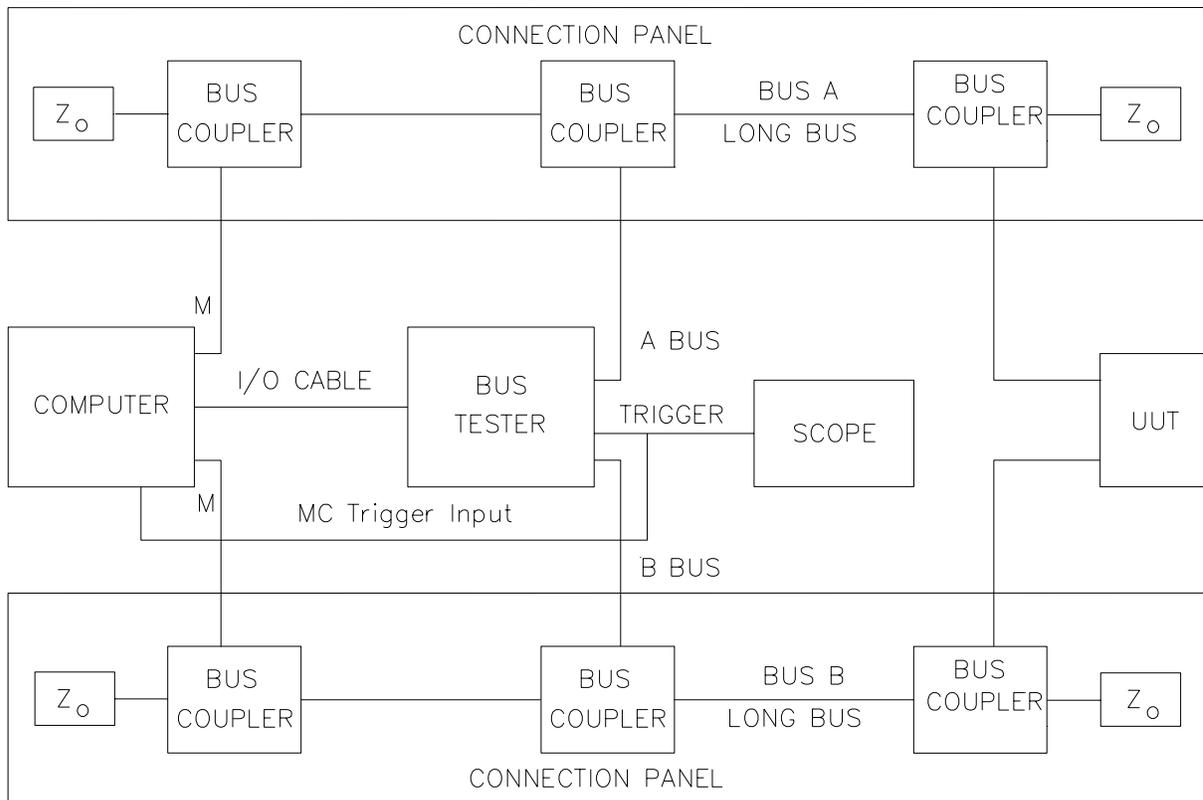
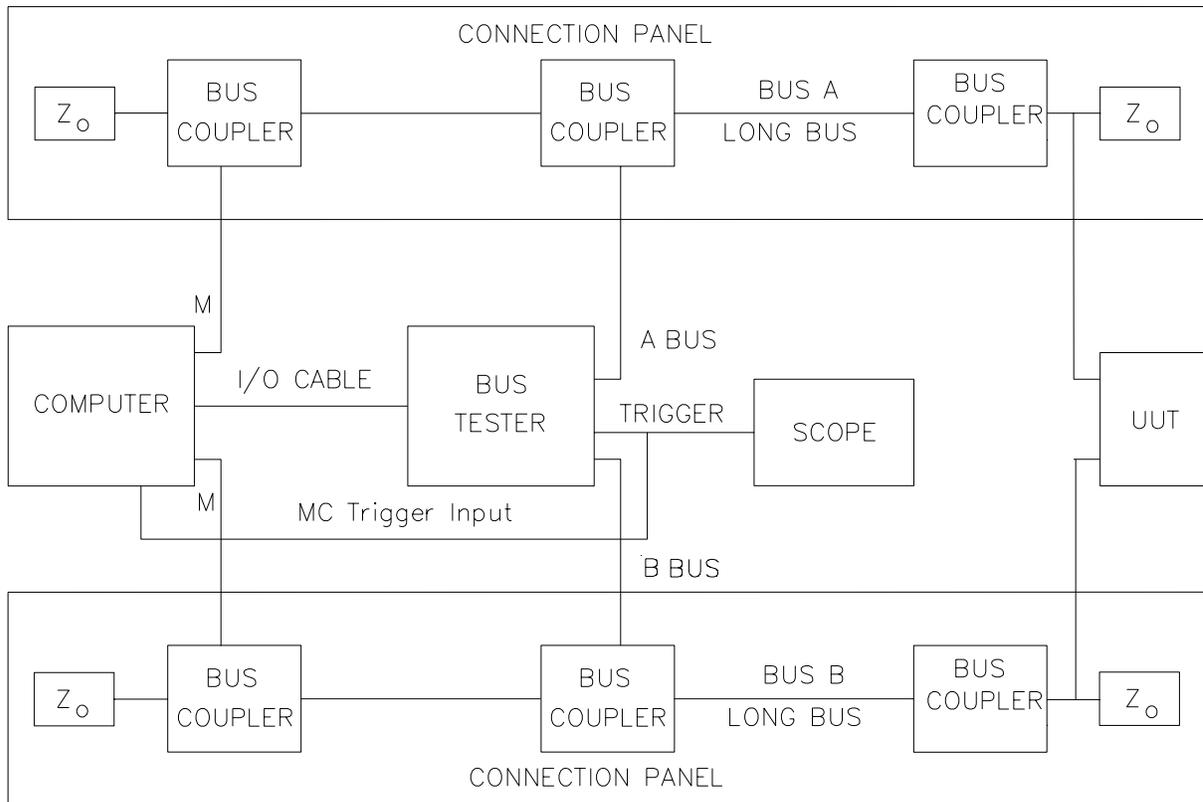

Figure 11. Protocol Tests Transformer Coupled Configuration
Figure 12. Protocol Tests Direct Coupled Configuration
- A. Connect the equipment as shown in Figure 11 or Figure 12 for the transformer coupled or direct coupled buses to be tested. See Figure 1B of the RT Validation Test Plan for the General Bus Configuration. The oscilloscope is not required for running Protocol tests but may be connected to the monitor outputs (MON) on the back of the 1553 BUS TESTER to observe bus traffic.
**A.** Connect the equipment as shown in Figure 11 or Figure 12 for the transformer coupled or direct coupled buses to be tested. See Figure 1B of the RT Validation Test Plan for the General Bus Configuration. The oscilloscope is not required for running Protocol tests but may be connected to the monitor outputs (MON) on the back of the 1553 BUS TESTER to observe bus traffic.